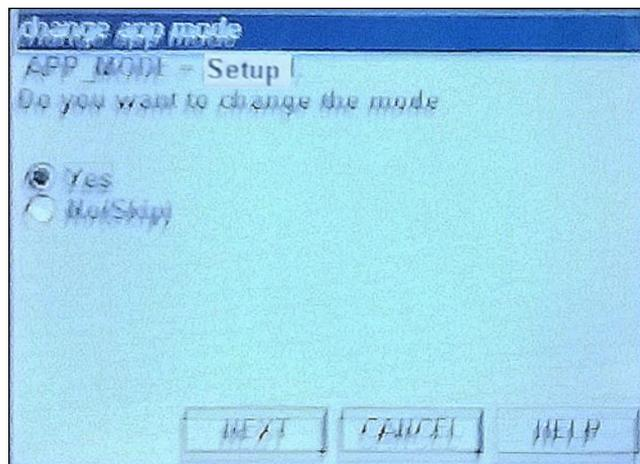

Figure 102 - App Mode Before Changing
5. Select **change app mode** and the *Block Mode Target* screen appears (Figure 102).